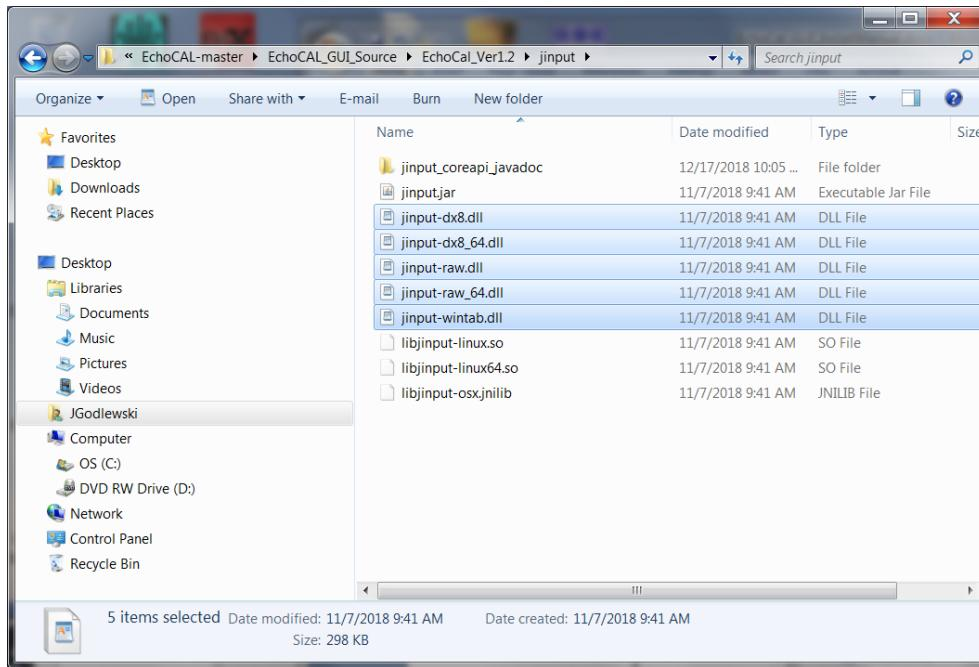

Figure 36: JInput Dynamic Link Libraries.
4. Now that the JAVA Runtime Environment has been copied into the *EchoCal* GUI distribution package, we now need to copy the Dynamic Link Libraries (DLLs) for the USB Joystick functionality. Navigate to the “*EchoCAL-master/EchoCAL_GUI_Source/EchoCAL_Ver1.2/jinput*” folder. Select the following DLLs: **jinput-dx8.dll**; **jinput-dx8_64.dll**; **jinput-raw.dll**; **jinput-raw_64.dll**; and **jinput-wintab.dll**. Right-Click on the files, and select “**Copy**” (Figure 36). (Note: If the ZIP package was developed in Linux, copy the files **libjinput-linux.so** and **libjinput-linux64.so**.)